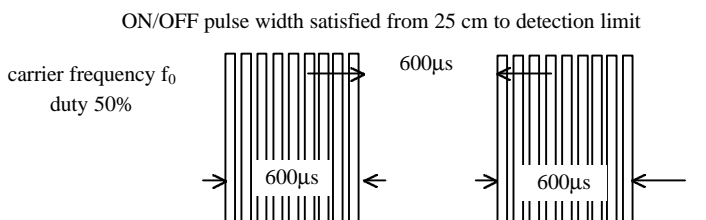

Fig 1. Burst Wave
- (1)Measuring placeIndoor without extreme reflection of light.
- (2)Ambient light source... Detecting surface illumination shall be 200±50Lux under ordinary hite fluorescense lamp of no high frequency lighting.
- (3)Standard transmitter ...Burst wave indicated in Fig 1. of standard transmitter shall be arranged to 50mVp-p under the measuring circuit specified in Fig 2.